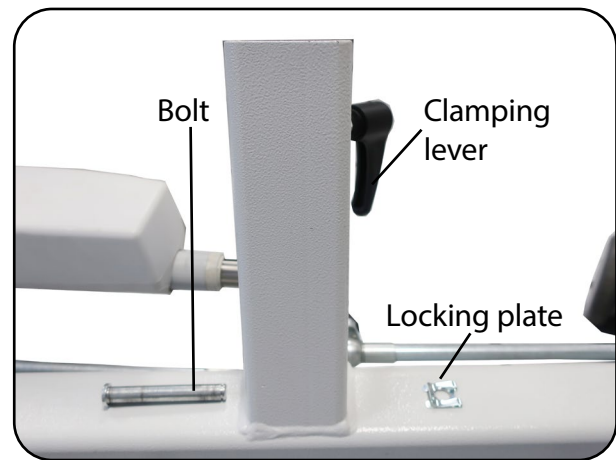

Fig. 6.2.02 - Stand mast holder
4. Remove the bolt with the locking plate from the hole and unscrew the clamping lever as far as possible (Fig. 6.2.02).